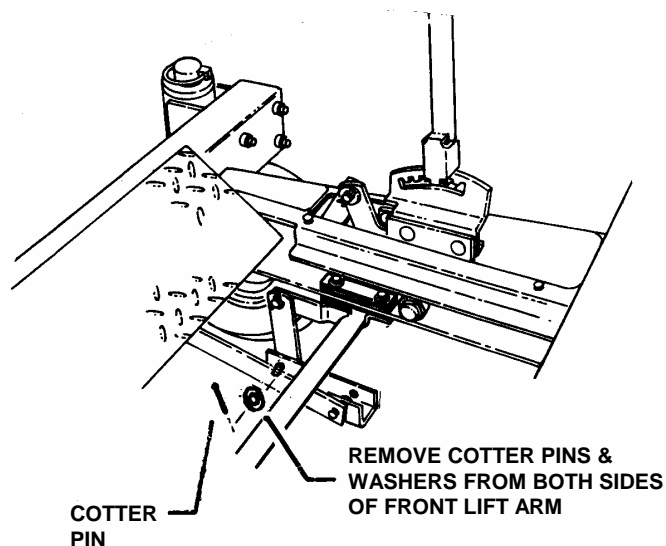

FIGURE 3.10
4. Remove cotter pins and washers from both sides of front lift arm. See Figure 3.10.